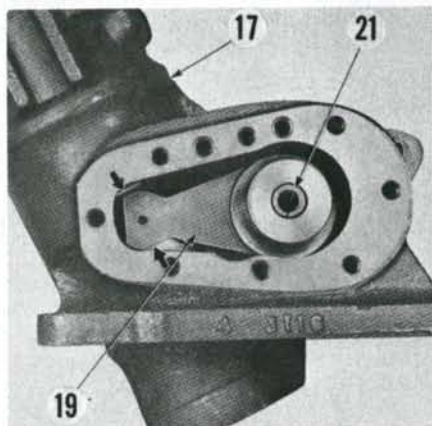
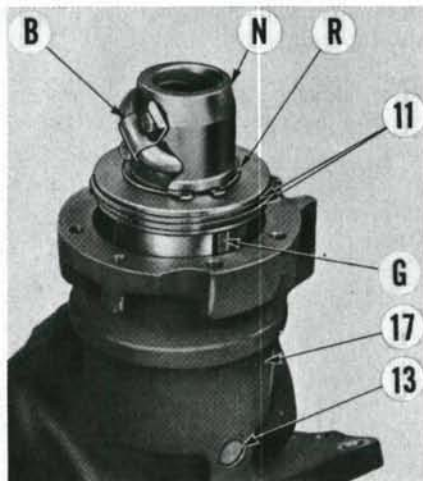

Fig. 10-Rocker shaft can be withdrawn when arm is centered in housing openings as shown. Refer to Fig. 9 for parts identification.
Fig. 12-Partially disassembled view of steering gear. Refer to Fig. 9 for parts identification except for the following:
Remove steering arm (15) using Special Tool 1001 or other suitable puller. Remove side cover (23), gasket (20), and rocker shaft end float shim (22). Turn steering shaft until rocker shaft arm is centered in housing opening as shown in Fig. 10, then withdraw rocker shaft.
Remove cap screws retaining bearing housing (9-Fig. 9); then, turning splined end of steering shaft clockwise, force bearing housing (9) and bearing (10) up and out of ball nut and main gear housing. Shaft bearing (10) contains fifteen 5/16-inch (7.94 mm) diameter loose steel balls which are free to fall as the parts are removed. Bearing balls are interchangeable with the 28 steel balls used in steering nut (N-Fig. 12).
Assemble steering gear as follows: Install piston rings (11-Fig. 12), if removed, and rotate rings until end gaps are 180 degrees apart. Align groove (G) with locating pin (13) and carefully install piston using a suitable ring compressor. Position ball nut assembly so rocker shaft arm slot is aligned with main housing side opening (Fig. 10) and install rocker shaft with spring (21) removed. Temporarily install main hous-
Turn rocker shaft until ball nut and piston unit is at top of its stroke. Install wormshaft and lower half of transfer tube as shown in Fig. 14, then feed in the 28 bearing balls using clean grease. Install upper half of transfer tube and clamp bracket (B-Fig. 12).